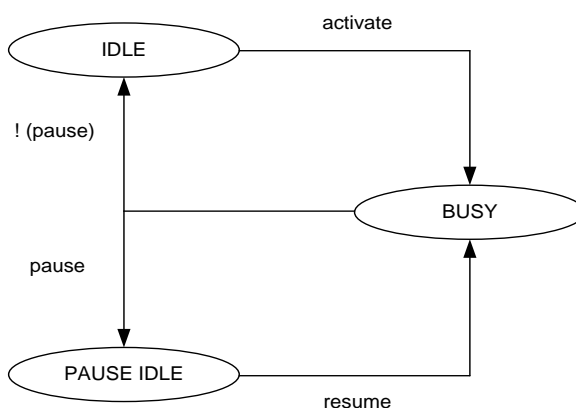

Figure 7-8. Operation Flow With or Without PAUSE Mode
- In PAUSE mode, the CS_N signal stays active (low) after the transmission. At this time, the SPI master is in PAUSE_IDLE state, ready to receive the resume command. See Figure 7-8 for the state transition.